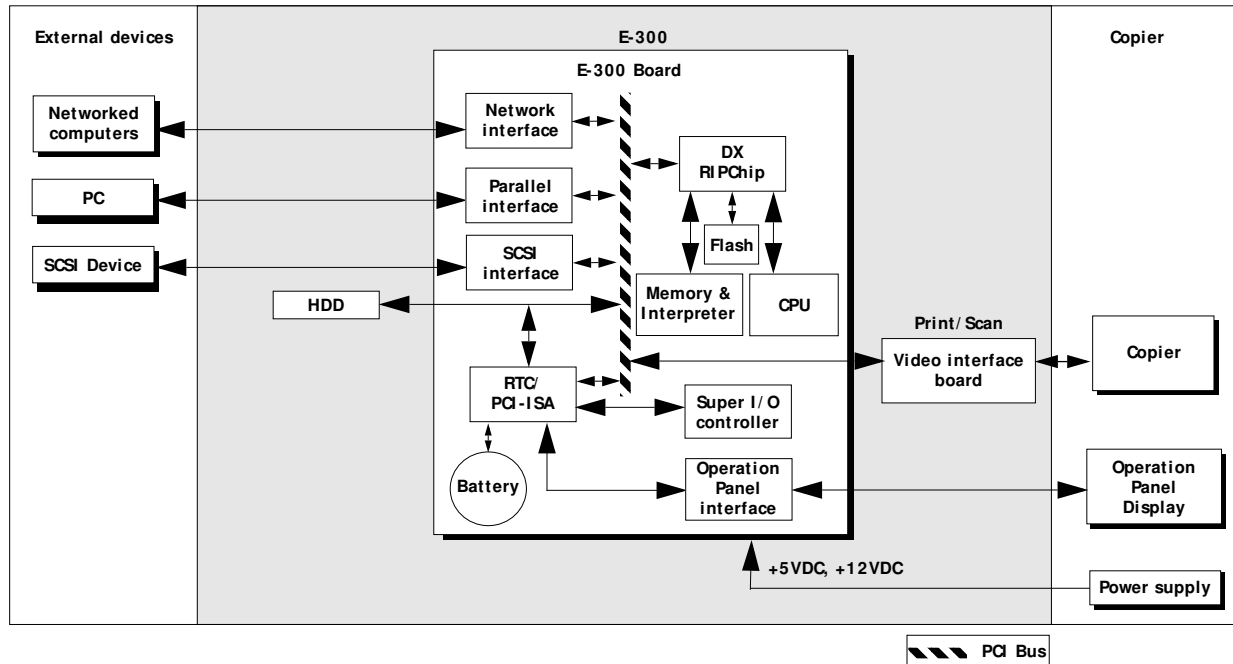

FIGURE 5-1 E-300 functional diagram
- The E-300 is a built-in print server for the copier and is generally part of a configuration like the one shown in Figure 5-1.